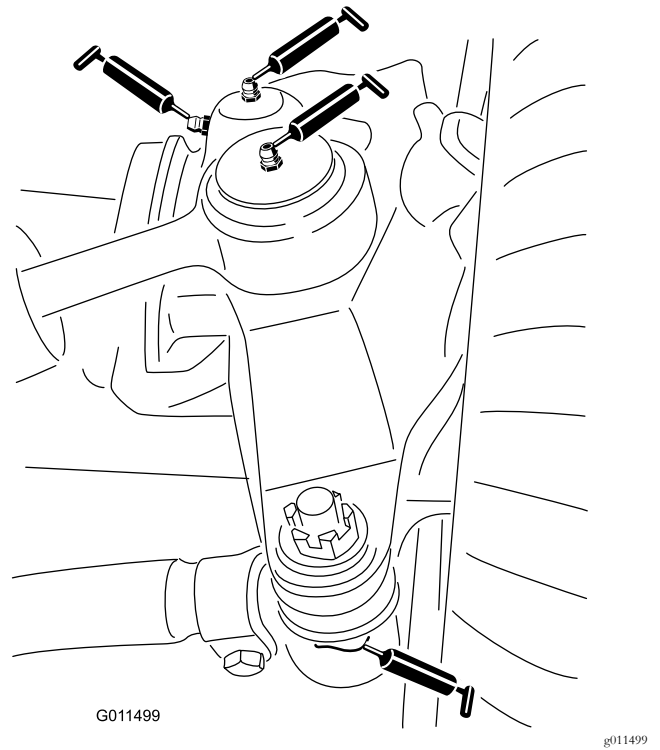

Figure 35
- Steering-cylinder ball joints (2) (Figure 35)
- Tie-rod ball joints (2) (Figure 35)
- King-pin bushings (2) (Figure 35).